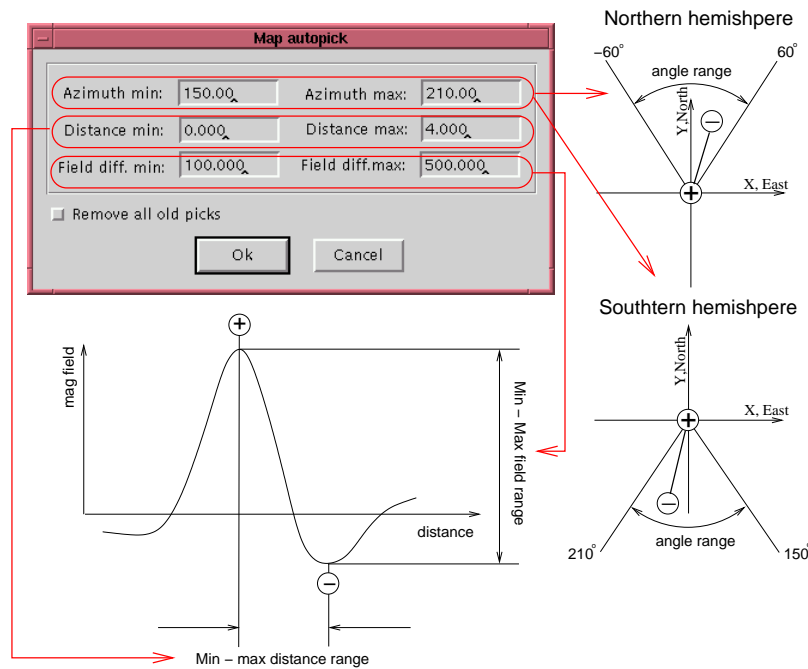

Figure 13: Setting parameters for automatic anomaly selection (picking)
2. Create pairs maximum - minimum. The number of these pairs can be fairly large: each maximum can be matched with each minimum. To reduce number of possible pairs the following user-defined restrictions apply (see figure 13):